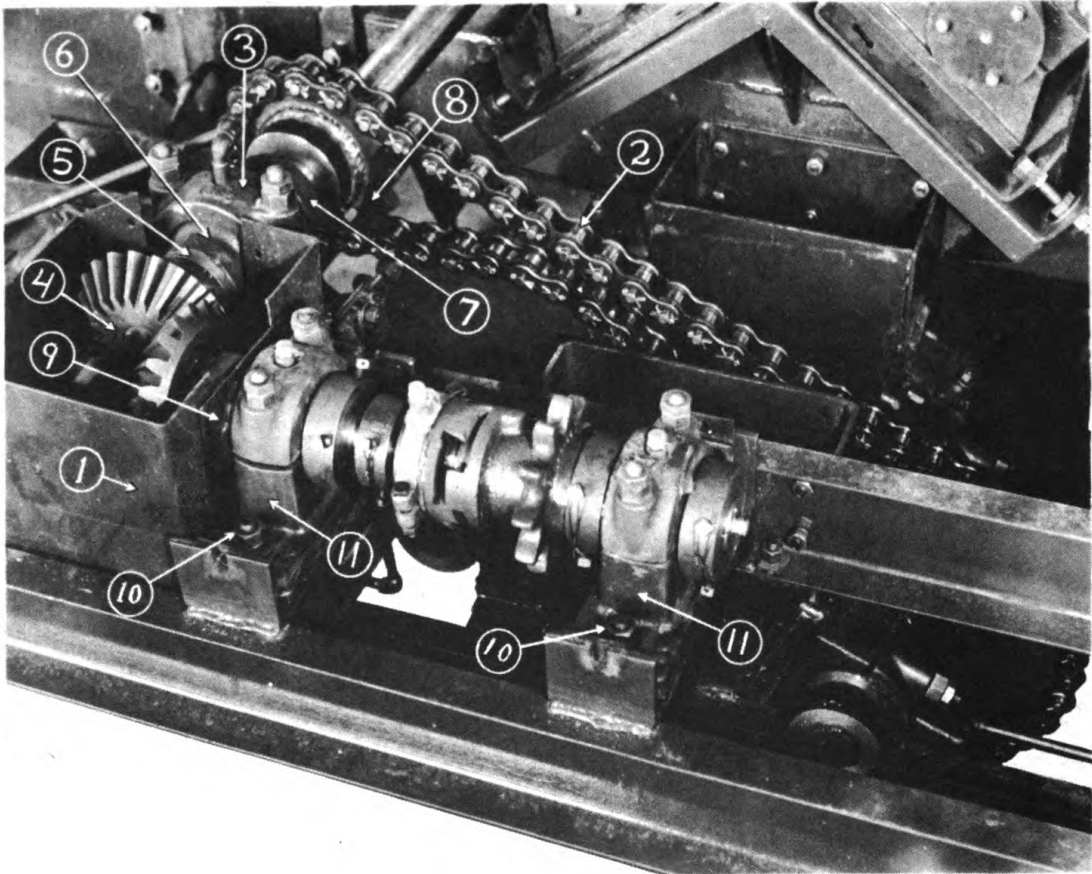

FIGURE 104
The main jack shaft should be removed to facilitate stripping. However, the bevel gear end can be stripped without removing the shaft. To strip bevel gear end, remove bolts from bevel gear box (1) Fig. 104 and lower box out of position. Break counter shaft drive chain (2). Remove bearing caps (3) from both ends of the shaft and raise bevel gear (4) end up high enough to permit stripping.
2. Remove bevel gear case (1) Fig. 104 at opposite end of jack shaft. This is done by removing gear case hold-down bolts and lowering gear case out of position.
6. Raise the bevel gear end of shaft and remove following parts; bevel gear (4), Fig. 104, bronze washer (5), bearing (6), collar (7), and sprocket (8).
1. Remove dust seals (9), Fig. 104 from bevel gear box (1). Remove the bolts that secure the gear box to the main frame and lower gear box out of position.
3. Remove two bearing hold-down bolts (10) from each bearing (11) and remove shaft.